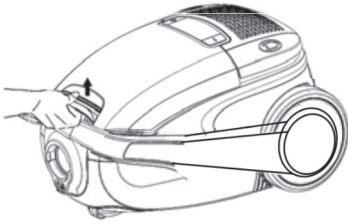

Fig. 18
1. Open the dust compartment cover by unlatching and subsequently raising it (Fig. 18).